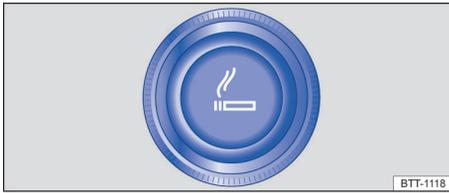

Fig. 130 On the front centre console: cigarette lighter.
- With the ignition switched on, press the cigarette lighter knob → Fig. 130 inward.